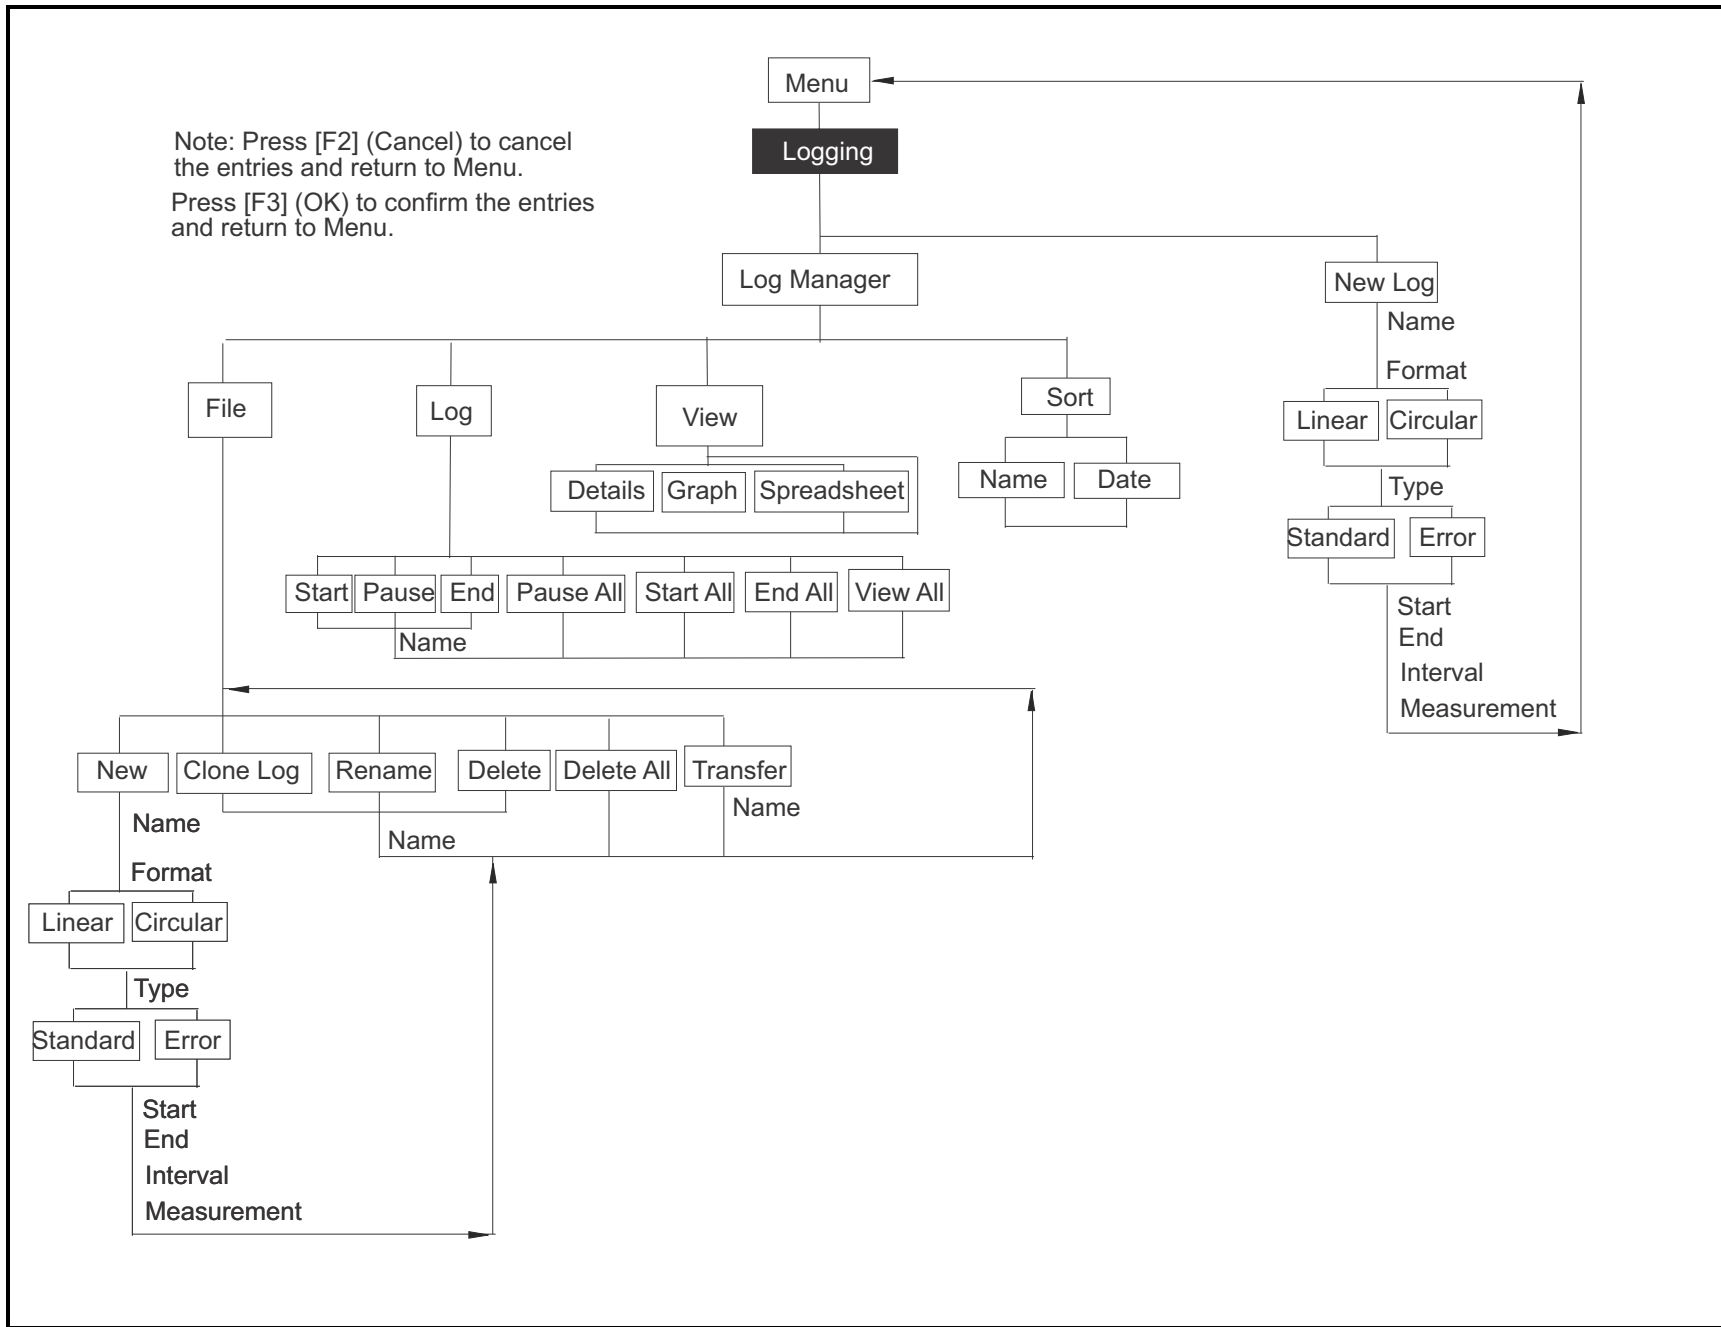

Figure 141: Logging Menu
- **Logging Menu** - Figure 141 on page 224.